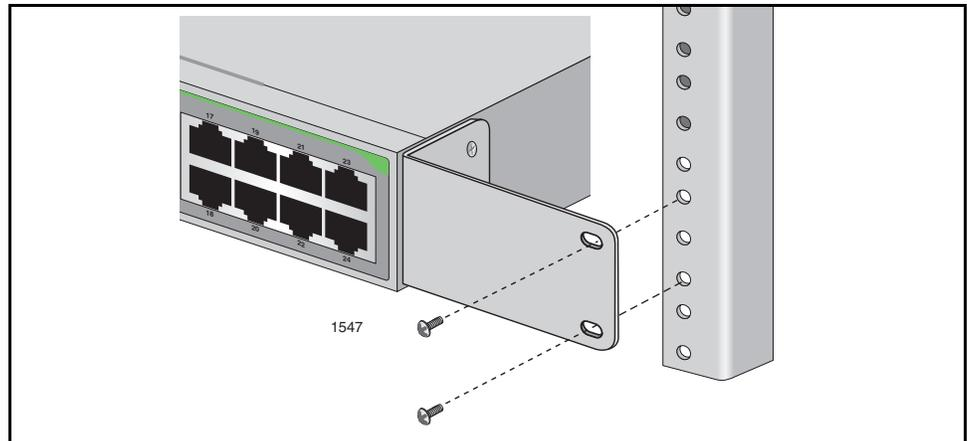

Figure 9. Rackmounting the Switch
4. Mount the switch in the 19-inch rack using the rackmounting screws (not provided), as shown in Figure 9.